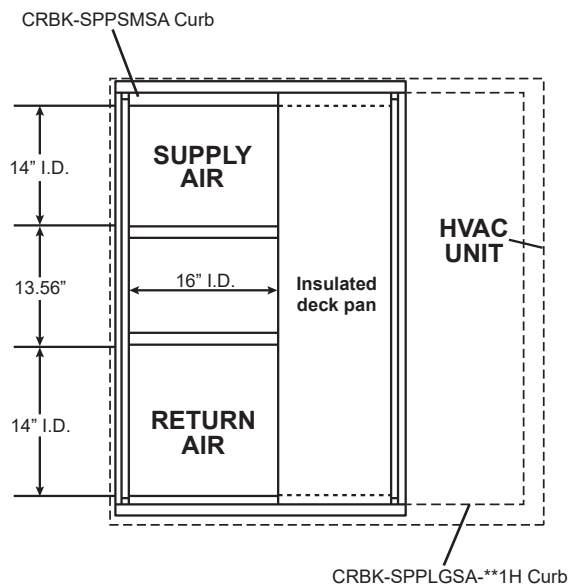

**Fig. 3 - CRBK-SPPSMSA Curb
- b. The location of the center supports will vary depending on cabinet size. See Fig. 3 and 4.
2. Cut hole in roof for duct openings. (See Fig. 3 and 4.) It is not necessary to cut out the entire area of the roof curb.